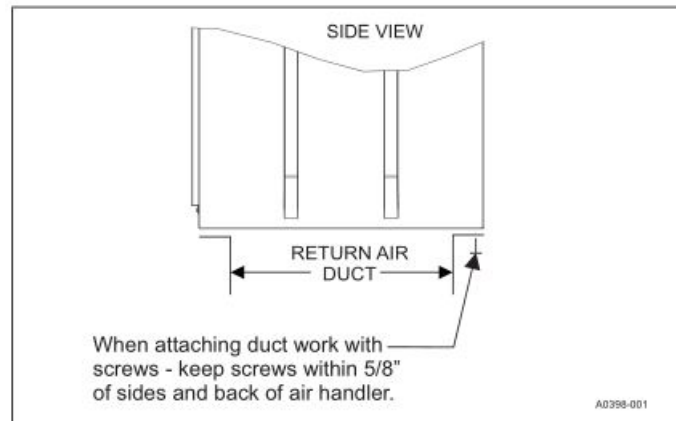

FIGURE 1: Return Air Duct Attachment
6. The unit rating plate displays the air handler model number. The unit dimensions for the supply air plenum are provided in Figure 5 and Table 1 of this Instruction Manual. The plenum must be installed according to the instructions. The return air duct attachment is shown in Figure 1.